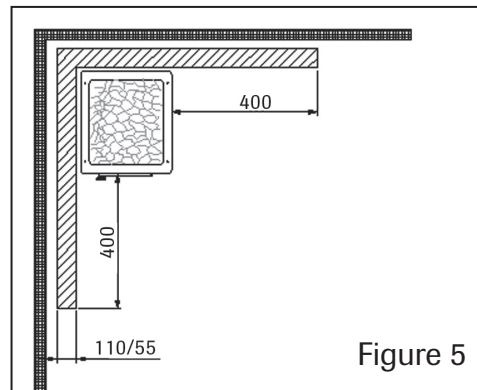

Figure 5
5. 55 mm thick masonry which is open at the edges and detached from the protected surface by at least 30 mm also constitutes single-layer, light thermal protection. Double light thermal protection constitutes 110 mm thick masonry detached from the protected surface as above. (Figure 5)